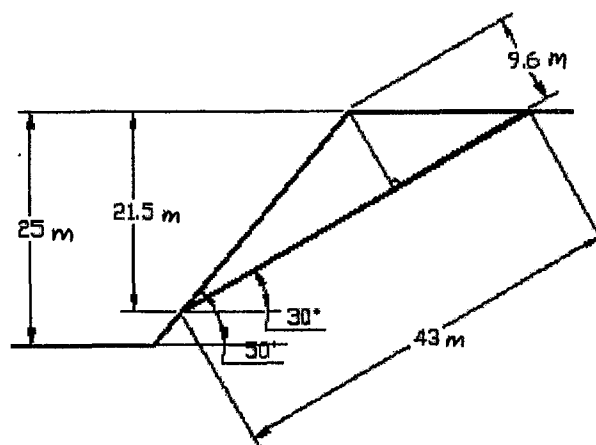

Figure 4
8. A slope is being analysed for its stability. Its geometry is in Figure 4. The slope is inclined at 50° and the discontinuity is inclined at 30° daylighting the slope. The height of the slope is 25 m and the discontinuity is seen on the slope at 21.5 m from the top of the slope. The parameters of the slope materials are in Table 2.